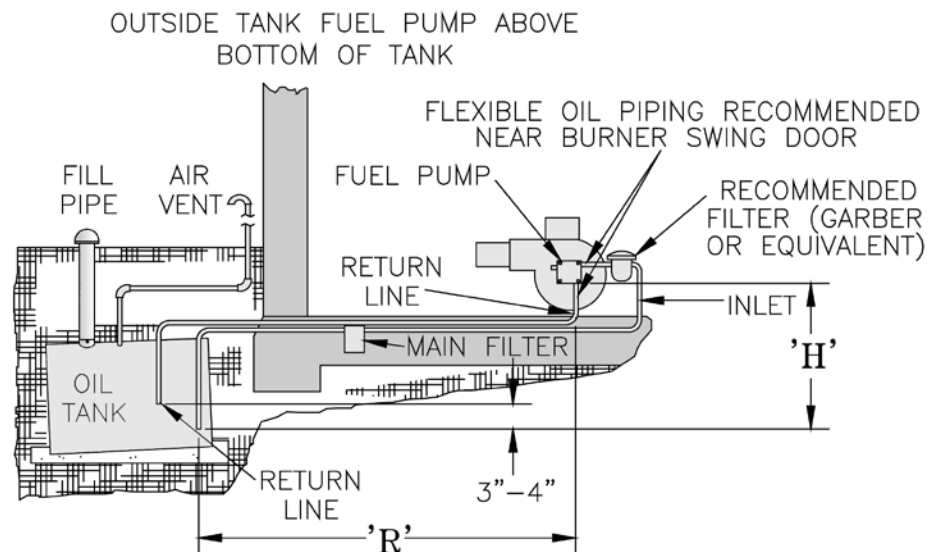

Figure 32: Two Pipe Oil Lines
1. For two piped systems, where more lift is required, the two-stage fuel unit is recommended. Table 7 (two-stage) and Table 8 (single-stage) show allowable lift and lengths of 3/8 inch and 1/2 inch OD tubing for both suction and return lines. Refer to Figure 32.